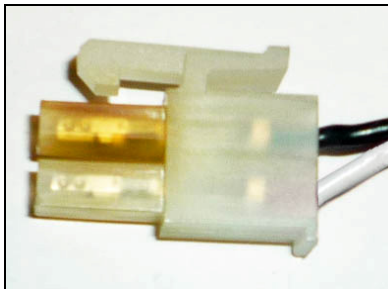

Fig. 4
1. Visually inspect the power cable connection at the embedded screen/PVS CCB. Check for burned or charred marks on the plastic connector (Fig. 4).